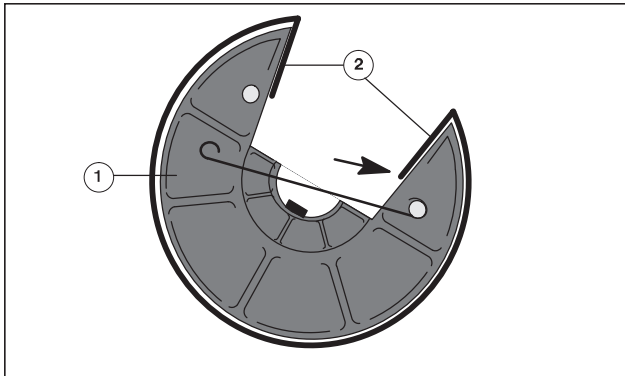

Fig. 12 Guide pulley
1. Pull off the old foil (Fig. 12/2) from the guide pulley (Fig. 12/1).
3. Partly pull off the protective paper of the new foil and stick on the start of the foil, starting in the recess of the segment (arrow in Fig. 12).